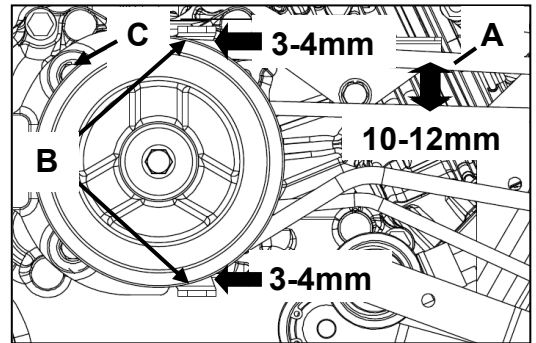

Figure 22
- Push the belt with a finger on (A, Figure 22) the belt must move from 10 to 12 mm. If the belt does not move accordingly, perform “tension wire” again.
- Check that the belt guides (B, Figure 22) are close 3 or 4 mm from the tighten belt.
- If it is necessary, adjust the belt guides as follow : unscrew bolt (C, Figure 22) and adjust belt guides as required and screw the bolt again.